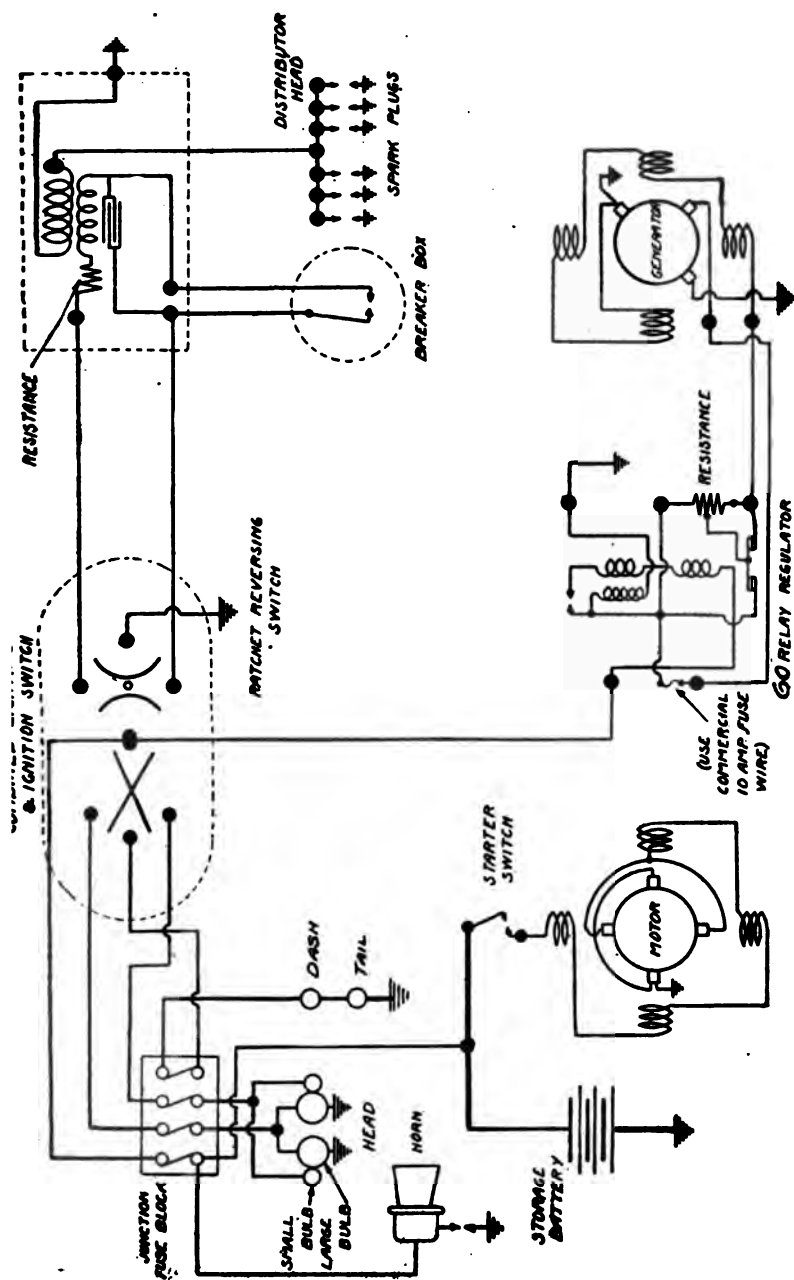

Fig. 316. Wiring Diagram for Remy Installation on the Yelle, Model 22
**Wiring Diagrams.** *Velie.* Fig. 316 shows the installation on Velie, Model 22, and the details will be plain with further explanation. The "ratchet reversing switch", shown in the diagram, is for controlling the ignition current, and it is designed to reverse the direction of this current each time the switch is turned on in order to prevent the formation of a crater and cone on the ignition interrupter contacts, as previously described, thus keeping the points in good work-